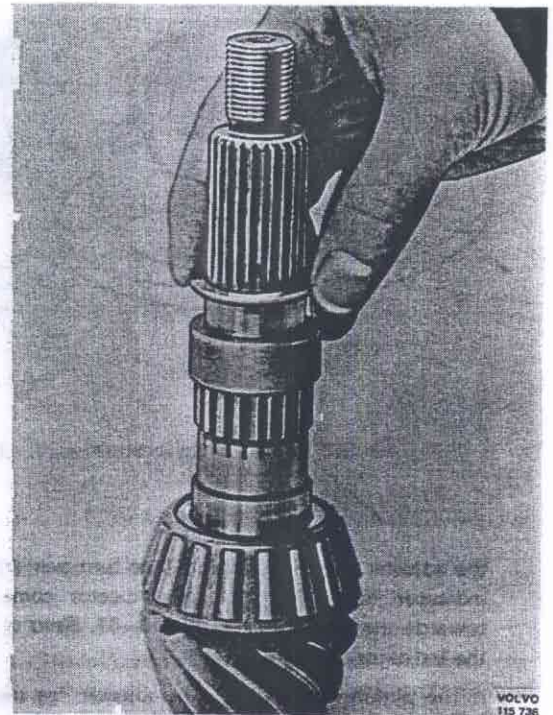

Fig. 46-66. Fitting the spacer ring
9. Place the spacer sleeve and the shims on the pinion, Fig. 46-66. Use those shims which were removed during the disassembling plus a shim of 0.5 mm (0.020").